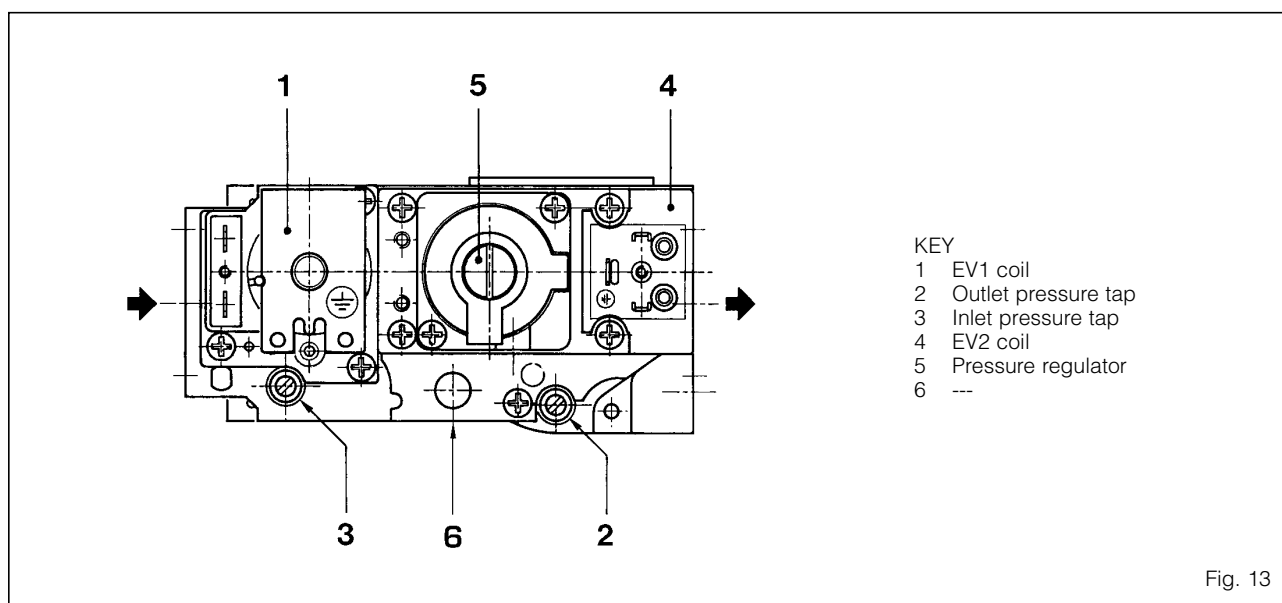

Fig. 13
The electronically ignited **"RX 37+55 CE IONO"** boilers are equipped with the HONEYWELL VR 4605 C gas valve (fig.13).
- tighten the adjusting screw (2 fig.11) or (5 fig.13).